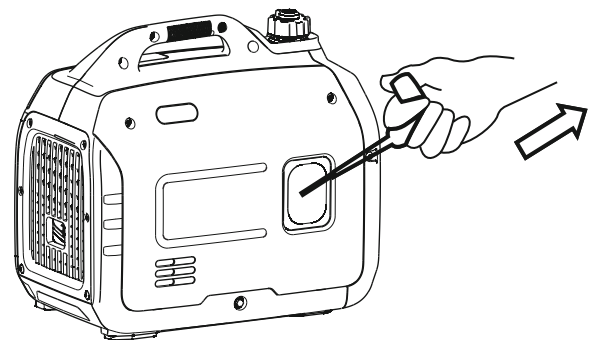

Figure 7: Pull the Recoil Handle out from Inverter
4. Firmly grasp and pull the recoil handle slowly until you feel increased resistance. At this point, apply a rapid pull while pulling out from the inverter (see Figure 7).